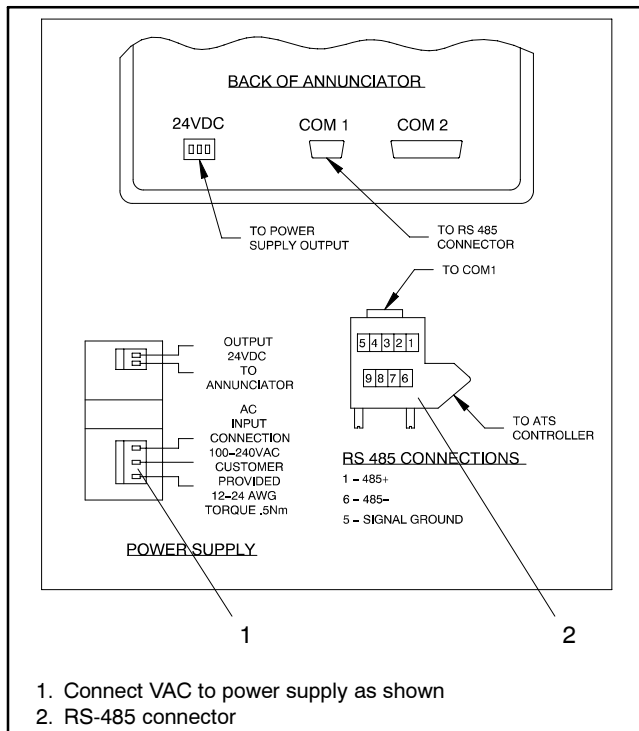

Figure 4 Annunciator Connections
1. Connect the shielded twisted-pair cable to terminals 1, 5, and 6 on the annunciator's RS-485 connector. See Figure 4 for the connections.
2. Plug the RS-485 connector into the annunciator's 9-pin communication port (COM1). See Figure 4.
4. Connect AC or DC power leads to the annunciator. See Figure 4. Choose step a or b below: